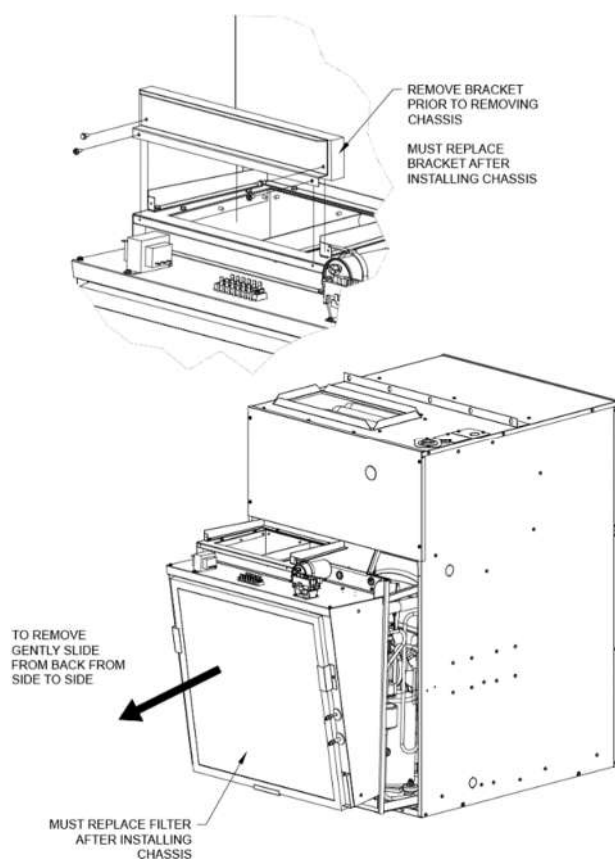

Figure 49– Slide Out Chassis
- 4) Slide-out refrigeration chassis **FIGURE 49 – Slide Out Chassis**